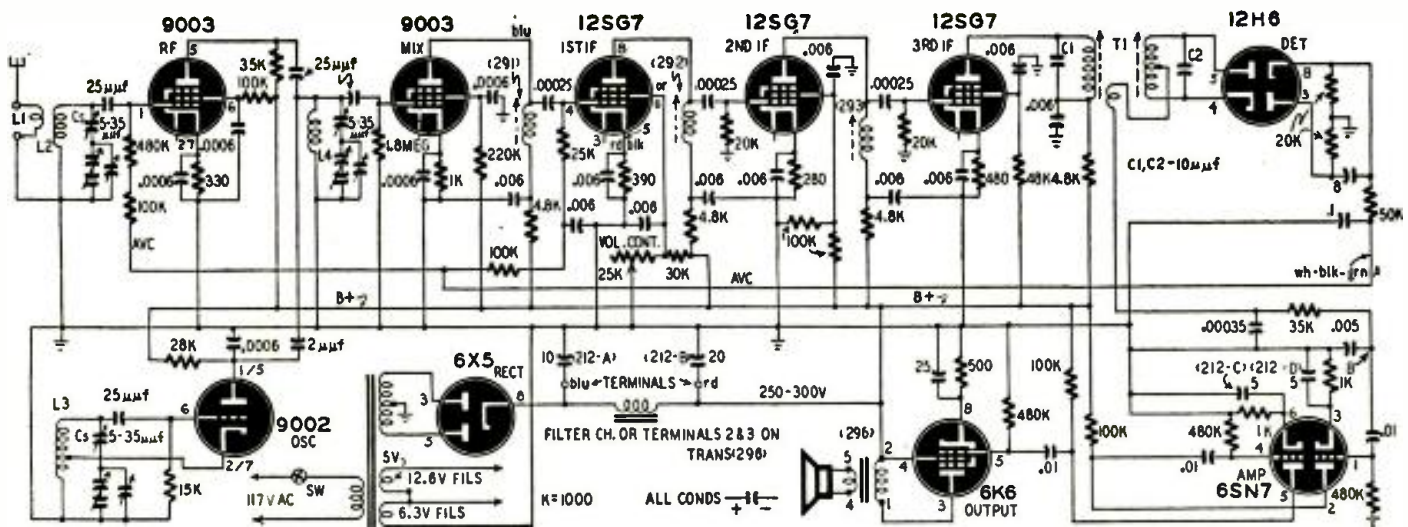

Fig. 2—The schematic. Replacing the 35,000-ohm resistor in the detector circuit with 15,000 ohms will improve high-note reproduction.
The circuit of a BC-624 converted for FM operation is shown in Fig. 2. Signal Corps nomenclature, in parenthesis, and color codes have been entered on the diagram to aid in tracing the circuit. The front end of the set is rewired with the 9002 in the oscillator circuit tuned by the center section of the condenser. Self-supporting coils are used in the antenna, mixer, and oscillator circuits. They are 3/8 inch in diameter and are wound with No. 14 wire. L1 is 2 turns placed about 1/4 inch from the grounded end of L2. L2 has 6 turns, spaced to 15/16 inch; L3 has 6 turns, center tapped and spaced to 7/8 inch. L4 is identical to L2.
The audio system follows conventional lines and is easy to construct. It has a 3-stage circuit. A 6SN7 is connected as a resistance-coupled cascade amplifier working into the 6K6 pentode power amplifier. It is shown in the lower right corner of the complete diagram in Fig. 2. The original output transformer (296) was not designed to handle power so it may be necessary to use a standard output transformer designed to match the 6K6 if good quality is expected. The d.c. output of the detector is connected to the original a.v.c. lead (identified as
The set can be best aligned with an FM signal generator; however an AM type will do. To align the discriminator transformer, the AM generator is connected to the grid of the third i.f. tube and a high-resistance or electronic d.c. voltmeter is connected to the a.v.c. lead at A (Fig. 2). The primary is then tuned for maximum output at 12 mc. The meter is transferred to point B and the secondary tuned for zero output at 12 mc. When the signal is shifted away from 12 mc the d.c. reading will increase to a maximum value and then drop off, reversing polarity and going through zero as the frequency goes from above to below 12 mc. These maximum values should be equal. There is some interaction between these adjustments so it may be necessary to repeat them.